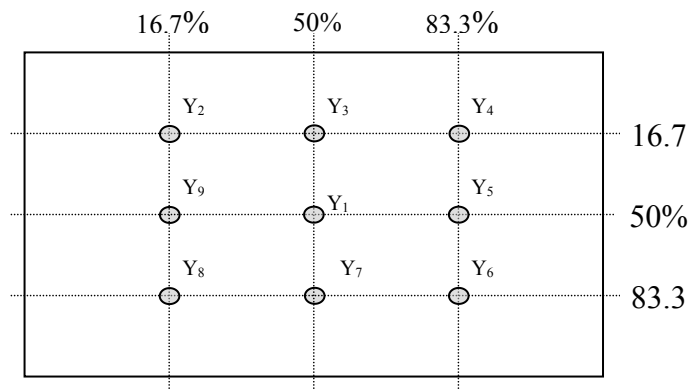

Fig. 2 Definition of points
The luminance uniformity in surface luminance is determined by measuring luminance at each test position 1 through n, and then dividing the maximum luminance of n points luminance by minimum luminance of n points luminance. For more information see FIG.2
**Note 7: Definition of Luminance (Refer Fig. 2):**